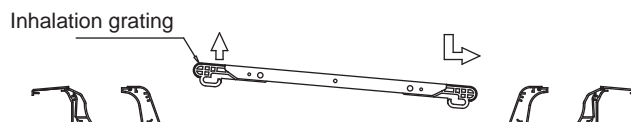

Fig.5-9
- 1) Upright row (non-directional) one side of the inhalation grating, and put down the other side, and then slide follow the arrow's direction refers to Fig.5-9